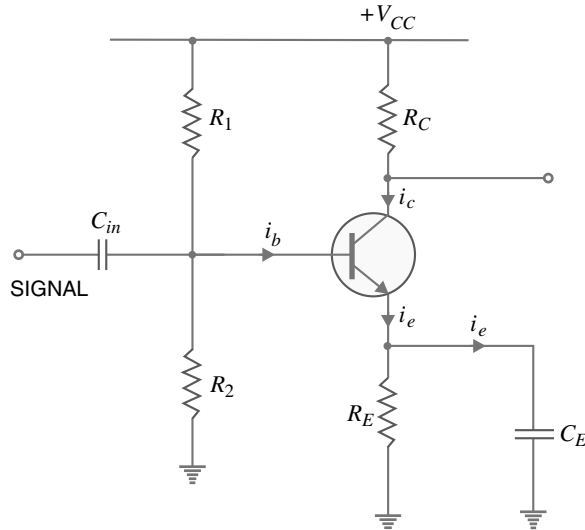

Fig. 9.11
**2. As bypass capacitors.** Like a coupling capacitor, a bypass capacitor also blocks d.c. and behaves as a short or wire (due to proper selection of capacitor size) to an a.c. signal. But it is used for a different purpose. A bypass capacitor is connected in parallel with a circuit component (e.g. resistor) to bypass the a.c. signal and hence the name. Fig. 9.11 shows a bypass capacitor  $C_E$  connected across the emitter resistance  $R_E$ . Since  $C_E$  behaves as a short to the a.c. signal, the whole of a.c. signal ( $i_e$ ) passes through it. Note that  $C_E$  keeps